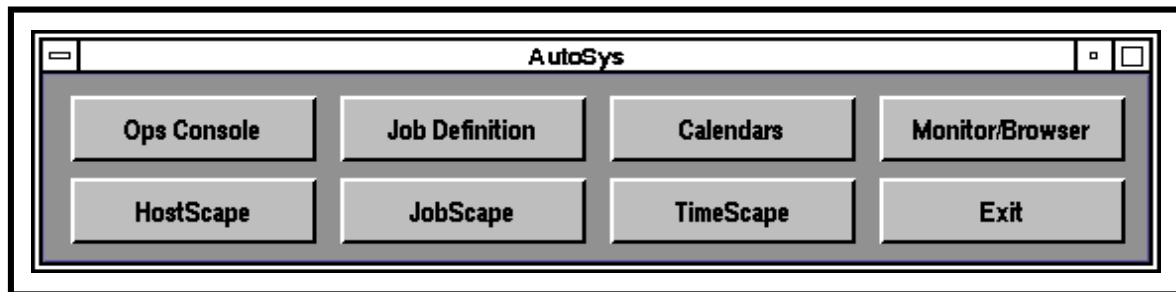

Figure 39. AutoSys GUI Control Panel
- The **AutoSys GUI Control Panel** (Figure 39) is displayed.
The procedure for configuring AutoSys/AutoXpert runtime options assumes that AutoSys has been launched and the **AutoSys GUI Control Panel** (Figure 39) is being displayed. Perform only the steps that are applicable to the changes to be made (as specified in Table 6). Note that if the Freeze Frame feature is enabled, any changes entered will not take place until Freeze Frame has been disabled.